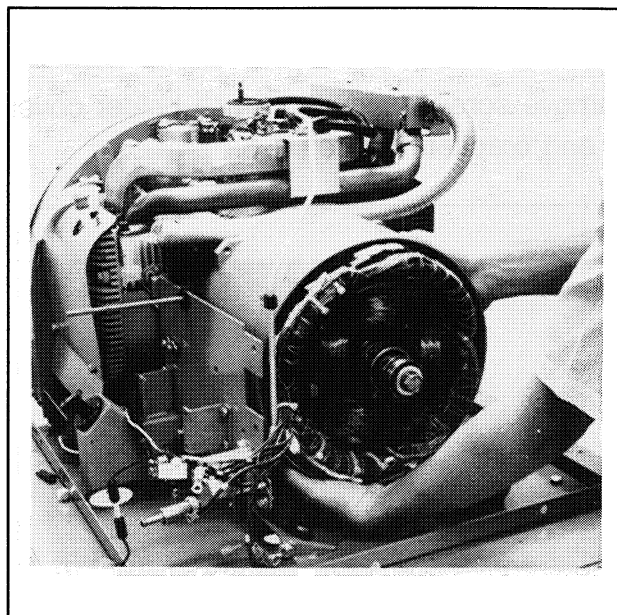

Figure 8-10. Removing Stator
18. Gently slide stator over rotor. Be careful not to damage rotor during stator removal. See Figure 8-10. Note position of stator leads before removing stator.